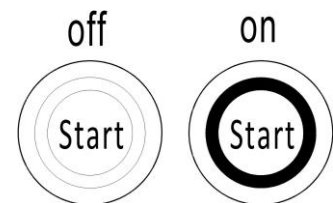

Fig.8: Button switch
Pull out the emergency button (Fig.1, 22), Press the button switch, and a green light will appear on the switch (Fig.8), type the password on pin-code panel and press ✓ button to start the truck. Truck can also be activated with RFID access card.
Always lower the forks fully. Press the button, green LED ring is off (Fig.8), and press the emergency switch (22).